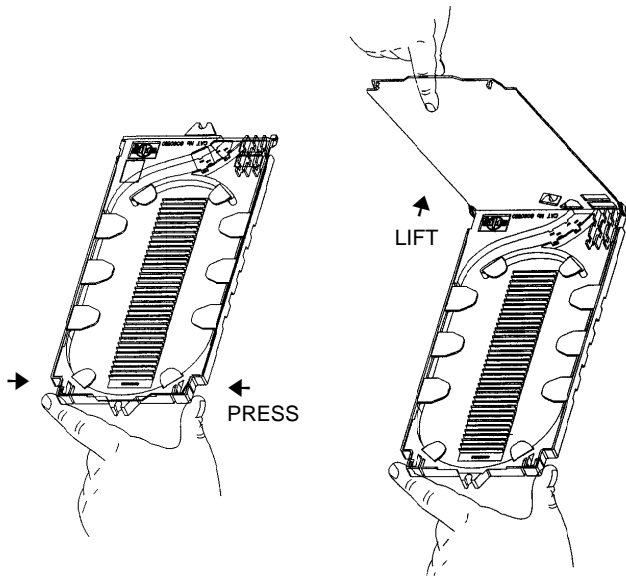

FIGURE 30 - REMOVE SPLICE TRAY COVER
13.02 Remove cover of splice tray. (Figure 30)